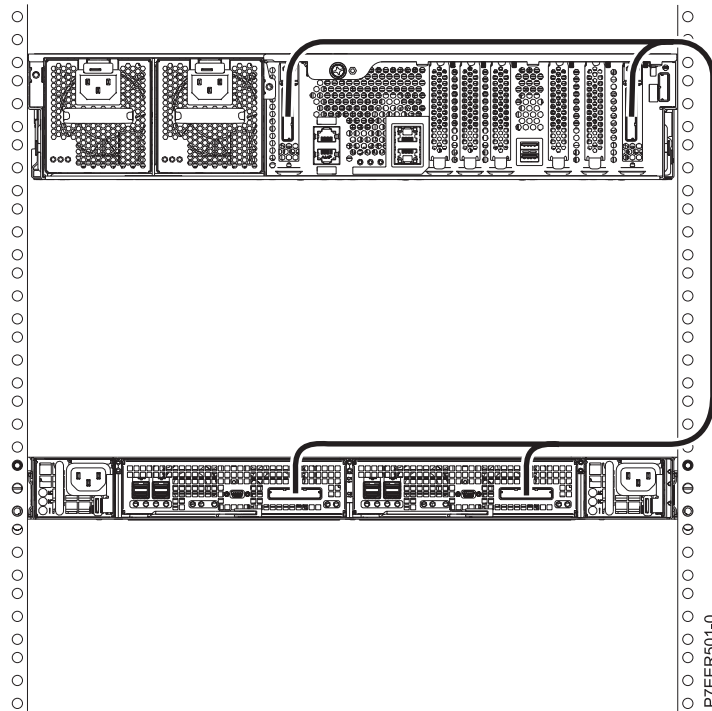

Figure 45. One EDR1 PCIe storage enclosure connected to an 8246-L2T system by using two FC EJ0H PCIe2 GX++ adapters and two PCIe cables
Figure 45 shows an example of connecting an EDR1 PCIe storage enclosure to an 8246-L2T system by using two feature code (FC) EJ0H PCIe2 GX++ adapters and two PCIe cables.